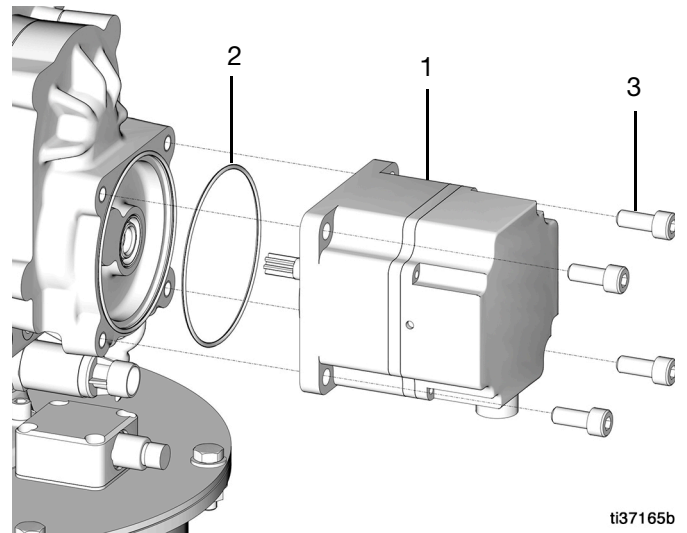

FIG. 72
32. Place the o-ring (2) and attach the motor (1) to the pump using the four bolts (3) (torque 11 ft-lb/14.9 N•m) (FIG. 72).